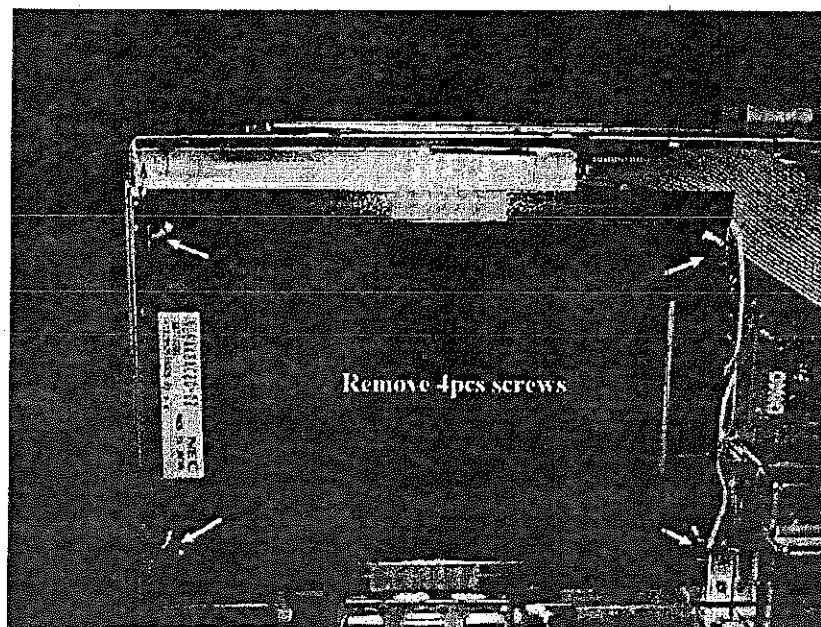

Figure 5-21 Location of Screws
4. Remove 4pcs screws, referring Figure 5-21.